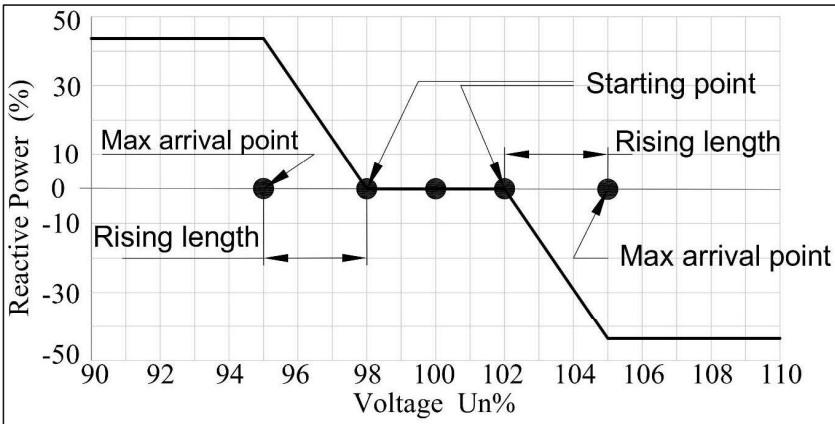

Figure 3.19 QU curve when power factor is 0.9,
- Reactive Power-Vol curve : Reactive power-voltage amplitude curve abide by Universal standard. Please set the following parameters as required: Starting point of Q-U%, Rising length of Q-dU%. For example, As shown in the figure 3.19, QU curve when power factor is 0.9, From the power factor of 0.9, we can calculate the maximum reactive power as  $43.59\% \times \text{apparent power}$  .